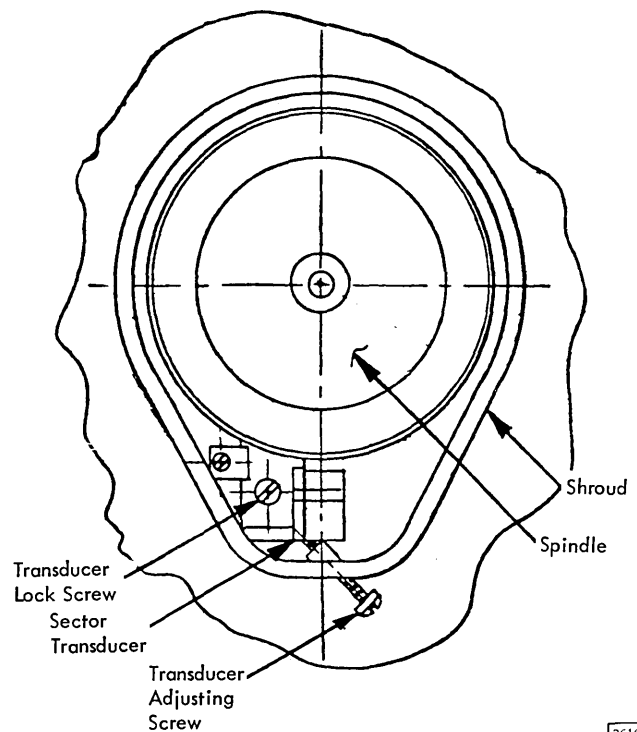

Figure 7-11. Index Timing Adjustment
7.17.1 Sector Transducer Index Timing Adjustment (Figure 7-11, 4-12)
9. With the cartridge handle in the open position, loosen the transducer lock screw (Figure 7-11).
10. Use the transducer adjusting screw (Figure 7-11) to position the transducer to increase or decrease the time delay. Turn the screw clockwise to increase the time delay and counterclockwise to decrease the time delay. One turn of the adjusting screw provides a change in time delay of $78 \mu\text{s}$.